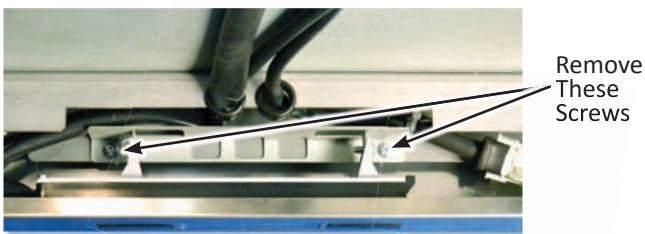

Figure 2
3. Remove four (4) T10 Torx screws that secure the two (2) glass retainer brackets.
4. Remove two (2) T10 Torx screws from control bracket. See figure 2.